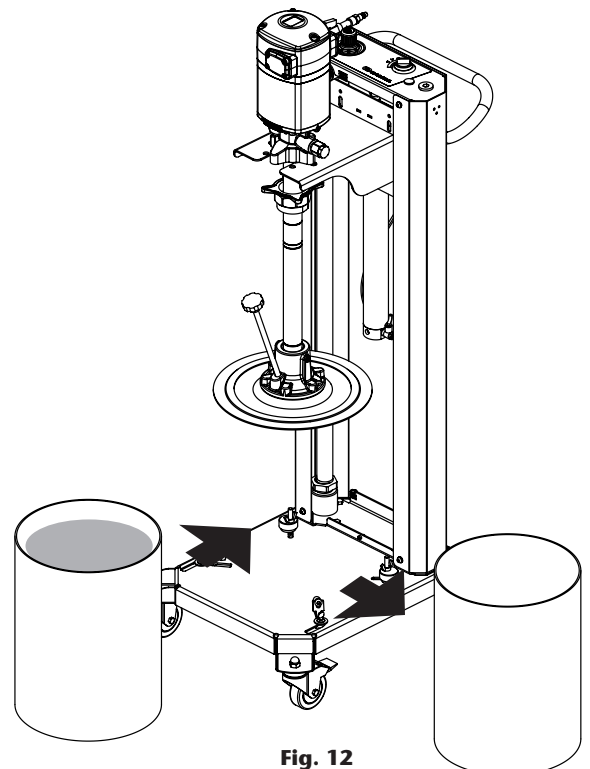

Fig. 12
4. Replace the pail following previous instructions (fig. 12).